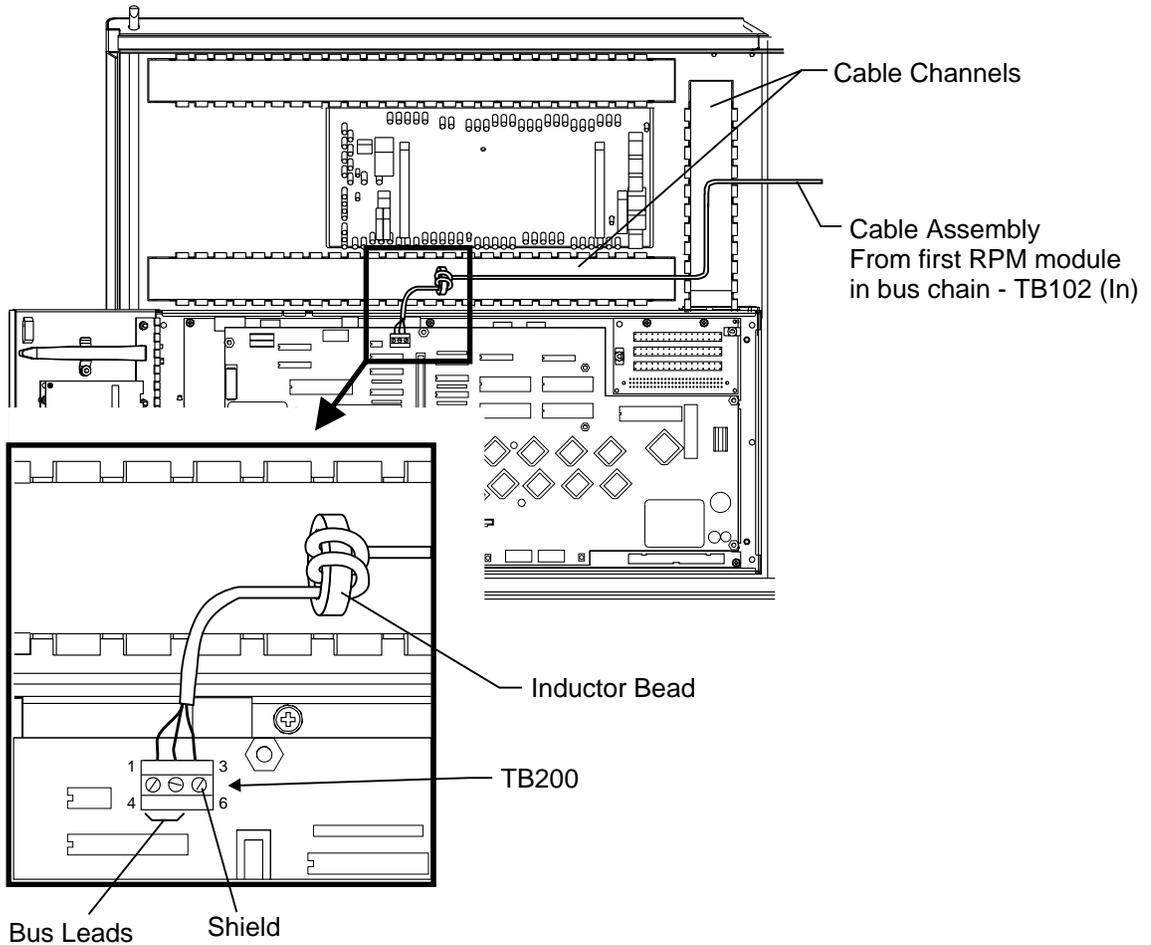

Figure 3-9: Connecting Remote Peripheral Interface Bus Wiring to BSJ
3. Wrap the bus wire twice through one of the supplied EMI inductor beads. Place the bead as close to the controller as possible. Connect the bus wiring to TB200 on the BSJ Intelligent Controller board. Refer to Figure 3-9.